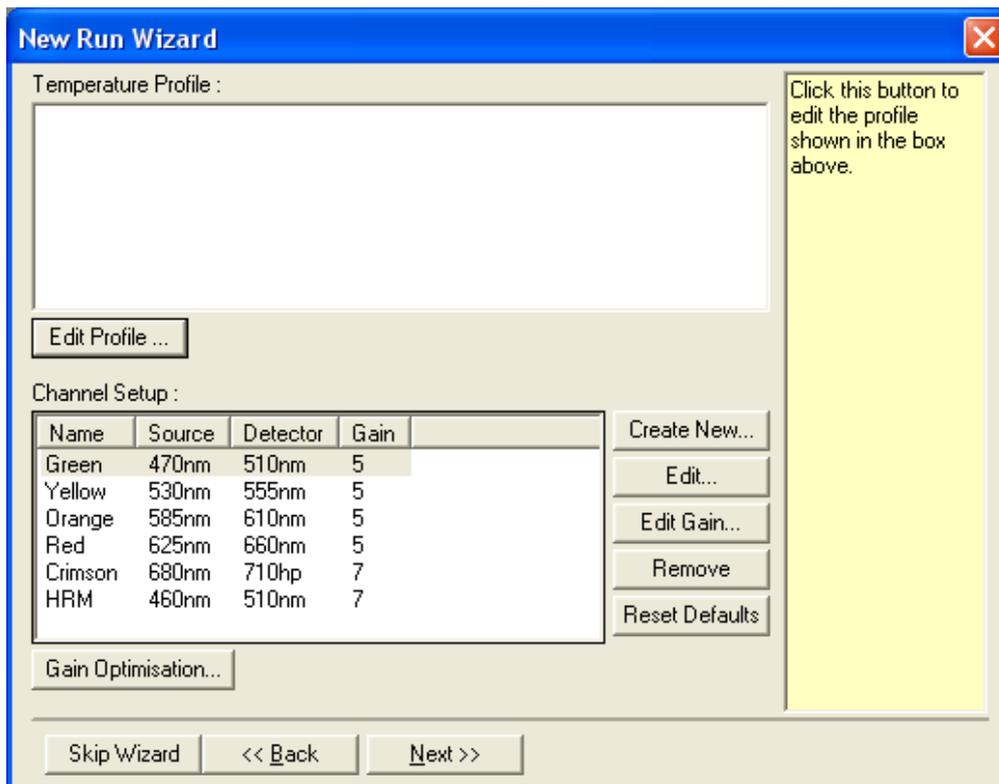

Figure 22. "Edit Profile" in the "New Run Wizard".
5. Click "Edit Profile" in the "New Run Wizard" dialog box (Figure 22) and check the run parameters according to the following steps.